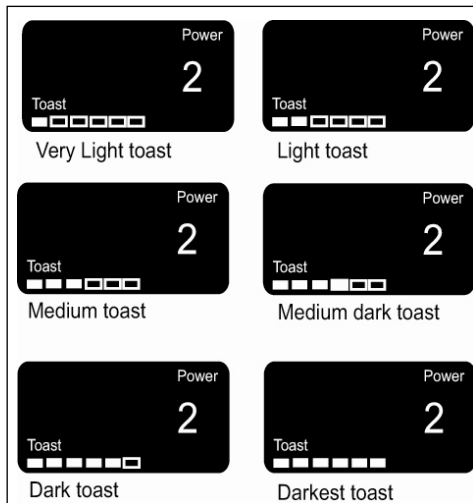

Fig. 11
4. Press the increase/decrease button to select the toast color. (Fig. 11)